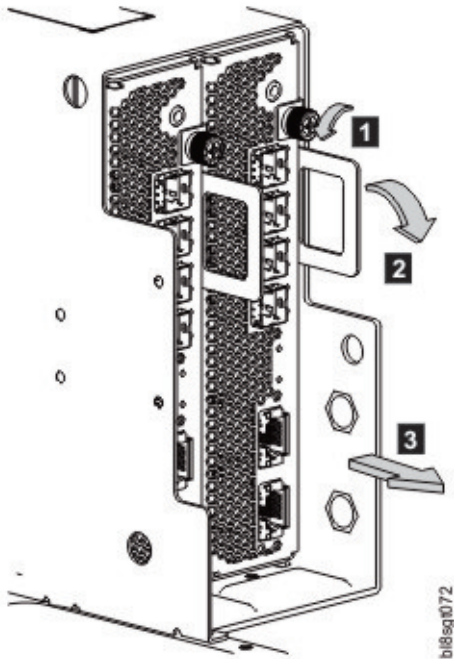
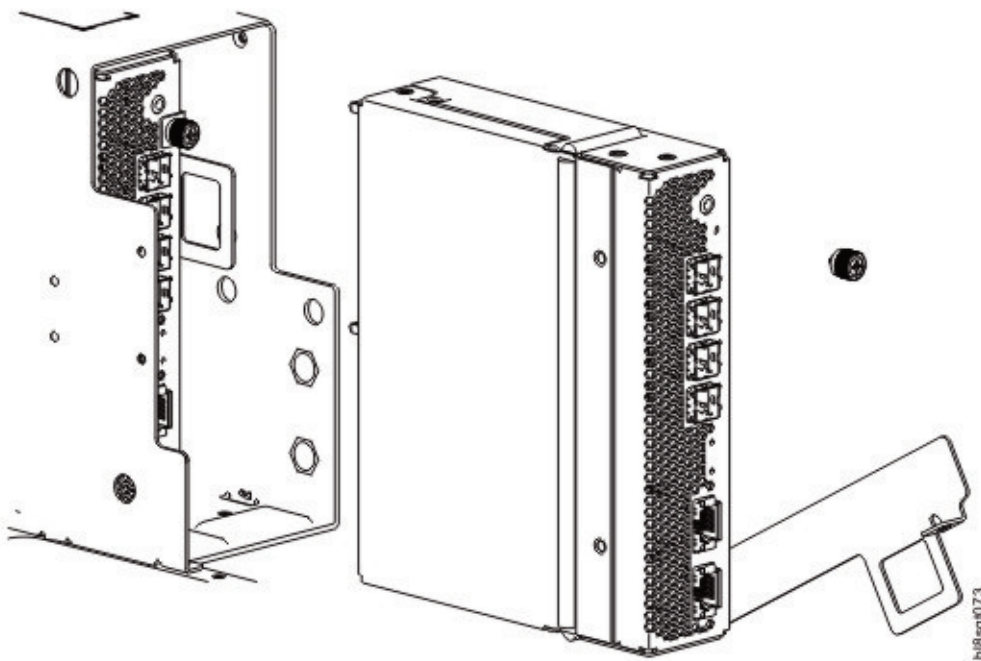

Figure 75. Removing an IOM/EBOD expander module (1 of 2)
Figure 76. Removing an IOM/EBOD expander module (2 of 2)
3. Unlock the IOM/EBOD expander module latch handle by turning the thumbscrew counter-clockwise as shown in detail No.1 in Figure 75 on page 88.
4. Grasp the IOM latch handle between the thumb and index finger and pull. Revolve the handle out and downward to lever the IOM/EBOD expander module out of the enclosure as shown in details No.2 and No.3 in Figure 75 on page 88.
5. Grip the latch handle and ease the IOM/EBOD expander module forward from the slot as shown within Figure 76.
Note: When performing the following procedure, refer to Figure 76 on page 88 and Figure 75 on page 88 while ignoring the directional arrow. For installation, the IOM/EBOD expander module will travel in the opposite direction relative to the arrow shown.